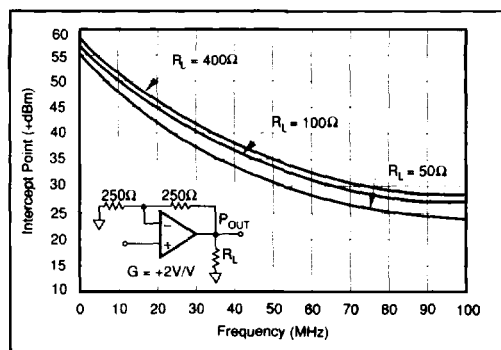

FIGURE 9. Two-Tone Third-Order Intermodulation Intercept vs Frequency.
Two-tone, third-order intermodulation distortion (IM) is an important parameter for many RF amplifier applications. Figure 9 shows the OPA621's two-tone, third-order IM intercept vs frequency. For these measurements, tones were spaced 1MHz apart. This curve is particularly useful for determining the magnitude of the third-order IM products as a function of frequency, load resistance, and gain. For example, assume that the application requires the OPA621 to operate in a gain of +2V/V and drive 2Vp-p into 50Ω at a frequency of 10MHz. Referring to Figure 9 we find that the intercept point is +47dBm. The magnitude of the third-order IM products can now be easily calculated from the expression: